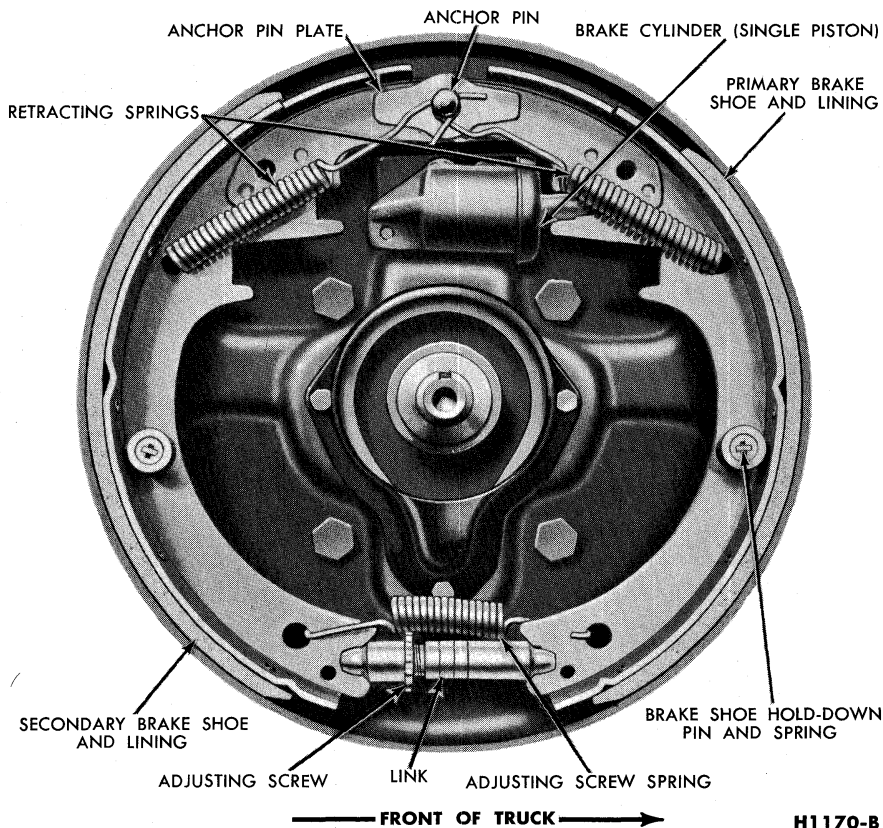

FIG. 12—Single Anchor Brake Assembly
In the single anchor type, both brake shoes are mounted to the same anchor and are actuated by one wheel cylinder. In the uni-servo, single anchor brake, the wheel cylinder has only one piston which exerts force against the upper end of the primary shoe (Fig. 12). In the duo-servo, single anchor brake, the wheel cylinder has two pistons. One piston exerts force against the upper end of the primary shoe; the other piston exerts force against the upper end of the secondary shoe (Fig. 2).
3. Remove the anchor pin plate (Fig. 12).